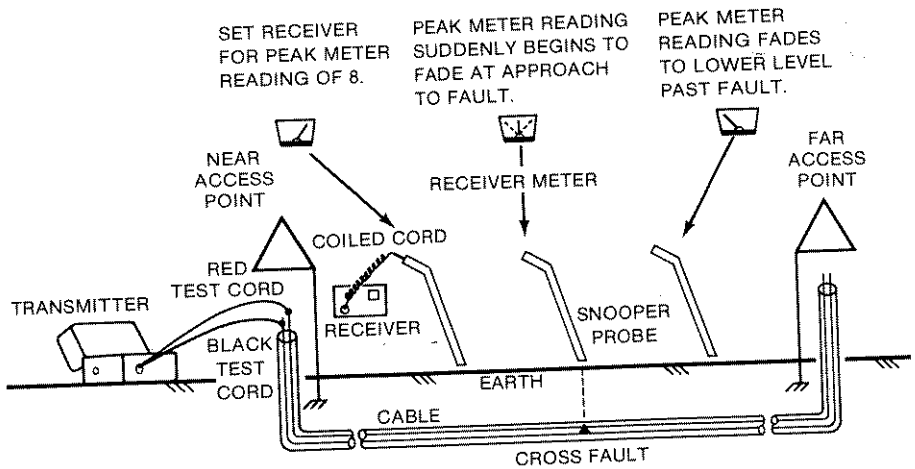

Figure 3-6.
4. Plug the jack end of the red/black test cord into the RED/BLACK TEST CORD jack receptacle on the transmitter (see Figure 3-6).